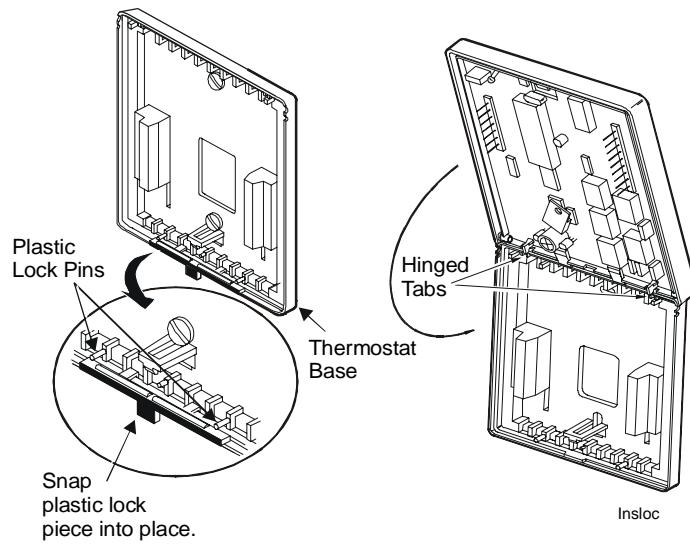

Figure 13: Installing the Thermostat Cover Lock
1. Place the ends of the lock piece (included with unit) under the lock pins extending from the bottom of the mounted base. The tab in the middle of the lock piece extends downward from the mounted base (Figure 13).
3. Press on the bottom center edge until the plastic lock snaps in place (Figure 13).